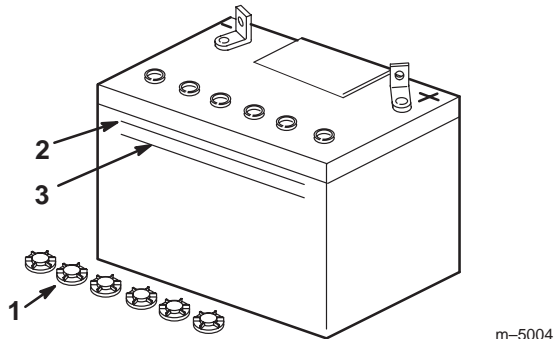

Figure 6
3. Remove the vent caps from the battery (Fig. 6).
4. Slowly pour electrolyte into each battery cell until the level is up to the **upper** line (Fig. 6) on the battery case.
5. Wait five to ten minutes after filling the battery cells. Add electrolyte, if necessary, until the electrolyte level is up to the **upper** line (Fig. 6) on the battery case.